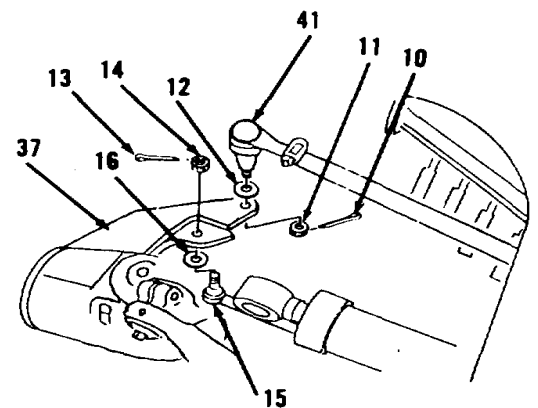

Figure 5-78.
26. Remove items 28 thru 37 as an assembly (Figure 5-78).
4. Install seal (33), new preformed packing (32) and seal (31).
6. Attach hoist and sling to items 37 thru 28 as an assembly (Figure 5-78).
7. Position items 37 thru 28 as an assembly on wheel lean arm.